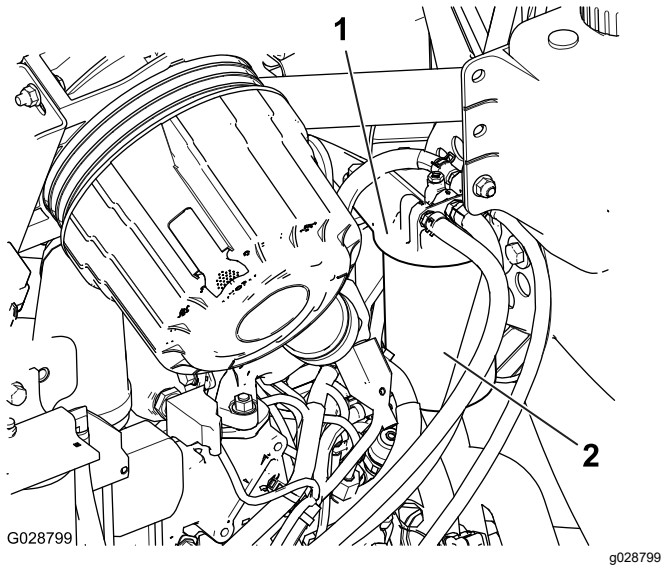

Figure 64
1. Clean the area around the fuel-filter head (Figure 64).
2. Remove the filter and clean the filter head mounting surface (Figure 64).